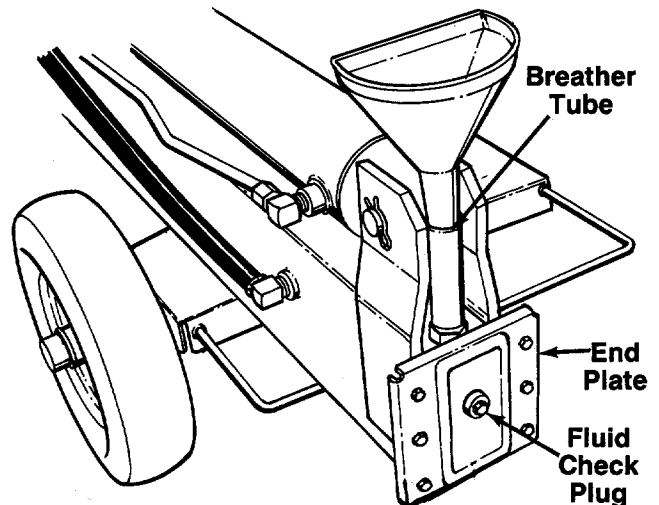

FIGURE 8.
- With the log splitter on a level surface, remove the cap from the breather tube. See figure 8. Remove the fluid check plug from the end plate.
2. Remove the fluid check plug. See figure 8. If fluid starts to come out of the hole, fluid level is correct. If it does not, fill reservoir as instructed in step 4 of the previous section.